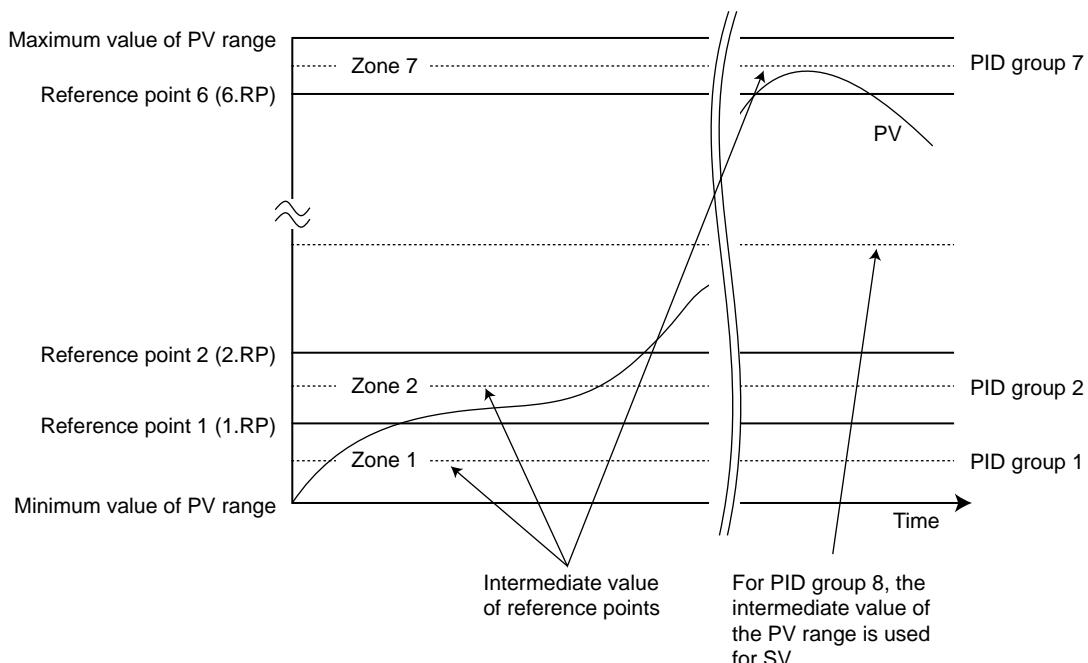

Figure 3.11.3 Auto-tuning When Setting AT to 9 under Zone PID
- The SV at the start of auto-tuning is used for auto-tuning. However, when parameter AT is set at 9, the SV used for auto-tuning will be as shown in Figure 3.11.3. For PID groups 1 to 7, auto-tuning is performed taking the intermediate value of each zone for SV. For PID group 8, auto-tuning is performed taking the intermediate value of the maximum and minimum values of the PV range for SV.